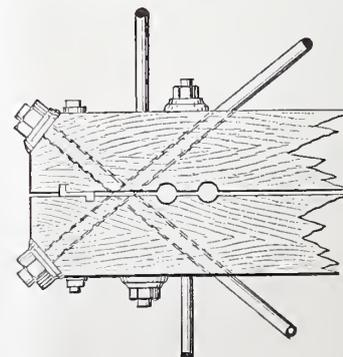

Fig. 4.—Top View of Floor Beam.
*A Study in Suburban Architecture.—Fig. 4.—Front Elevation.*